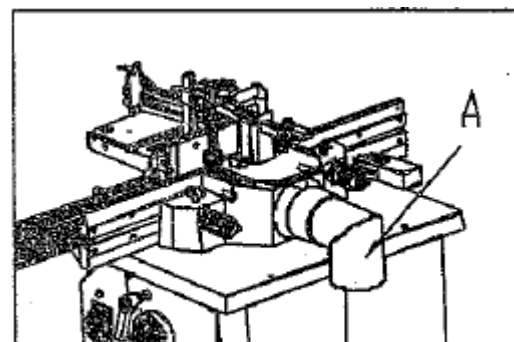

Fig. 2
Switch on the machine's drive and extraction system at the same time. Use a flexible hose of 100mm diameter. The exhaust hose is fitted onto the outlet from the moulding tool cover, which also forms the exhaust connector (A). See Fig. 2.